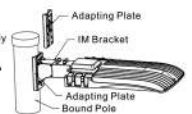

Figure 5-3
- 3: Notice: Round pole should be with adapting plate. (Figure 5-3)